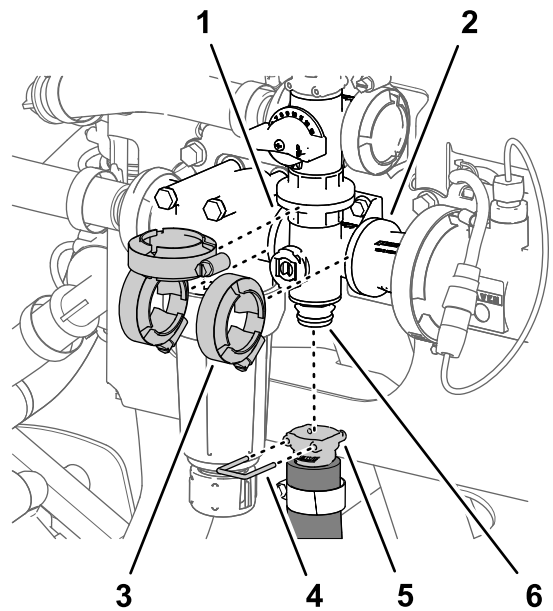
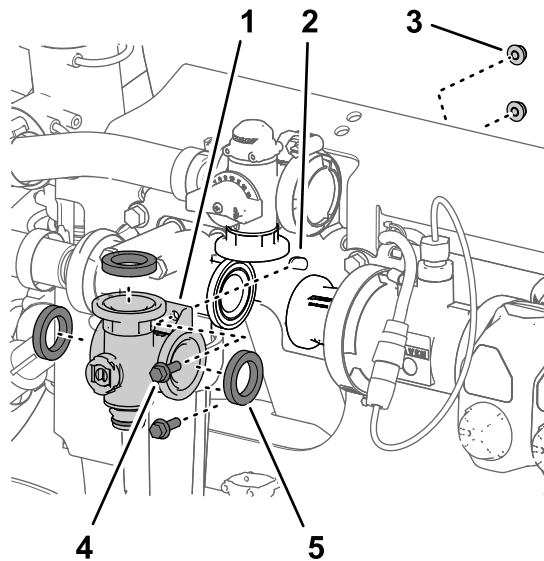

Figure 126
Figure 125
1. Align the flange of the agitation-valve manifold and 3 gaskets with the flanges of the agitation-bypass valve, pressure filter head, and coupling adapter (Figure 125 and Figure 126).
2. Loosely secure the agitation-valve manifold to the agitation-bypass valve, pressure filter head, and coupling adapter (Figure 126) with the 3 flange clamps that you removed in Removing the Agitation-Manifold Valve (page 81).
5. Tighten the 3 flange clamps by hand (Figure 126).
6. Assemble the quick-connect coupler of the agitation hose onto the quick-connect fitting of the agitation-valve manifold with the quick-connect pin (Figure 126).